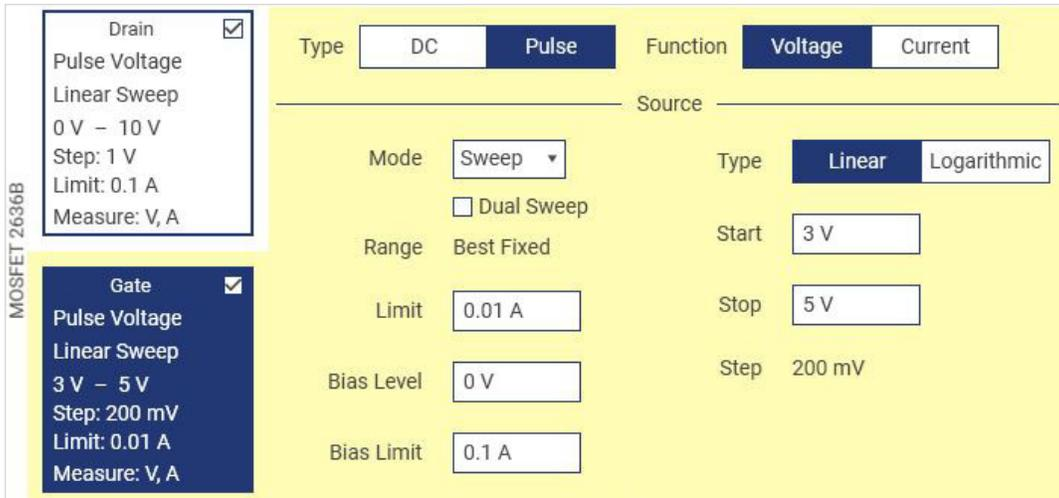

Figure 13: Apply gate source type and output settings.
7. Apply the following Gate source changes (illustrated in Figure 13):